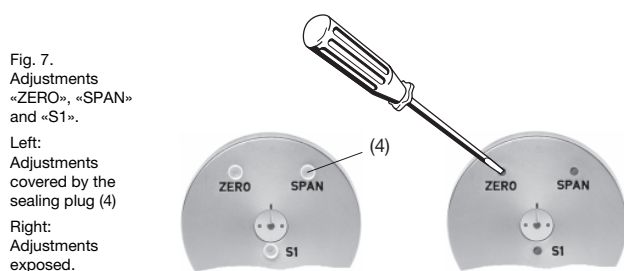

Fig. 7.
Remove the ZERO/SPAN sealing plug (4) (Fig. 7, left). Place the measured device at its **zero position**, i.e. the position at which the KINAX 3W2 should produce 0 mA (3- or 4-wire connection) resp. 4 mA (2-wire connection) at its output.
Then adjust the "ZERO" potentiometer (Fig. 7, right) using a watchmaker's screwdriver (2.3 mm diam.) so that the desired output current flows.
A switch is provided on angular transmitters with a measuring range > 150 ° for reversing the direction of rotation. It is marked S1 and can be operated through the opening in the rear part of the transmitter (Fig. 7).